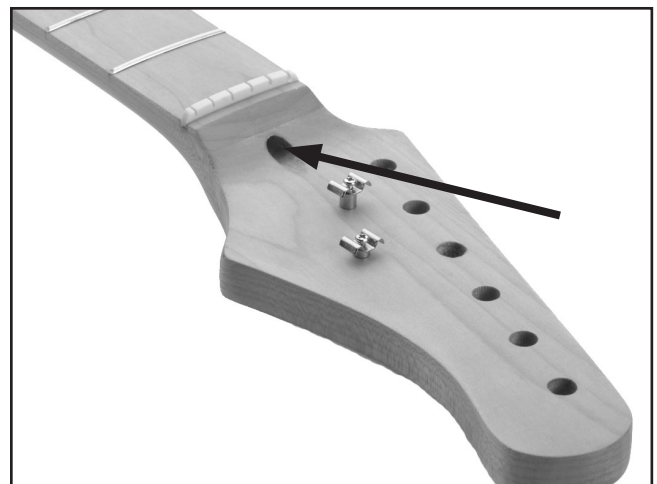

Figure 26. Truss rod nut location.
4. Turn the truss rod nut in the base of the neck (**Figure 26**) counterclockwise with a 5mm hex wrench to release tension on the neck. Retighten until the nut begins to grab.